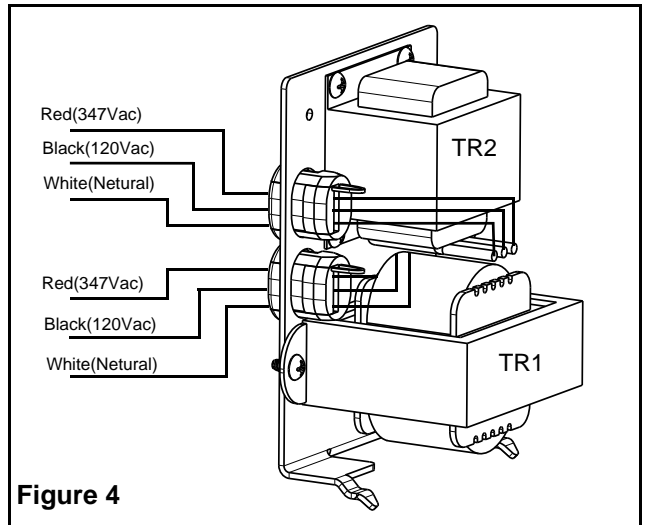

Figure 4
- c. Option cold-weather: the equipment has two line transformers: one for emergency lighting and the other for temperature control (Figure 4).